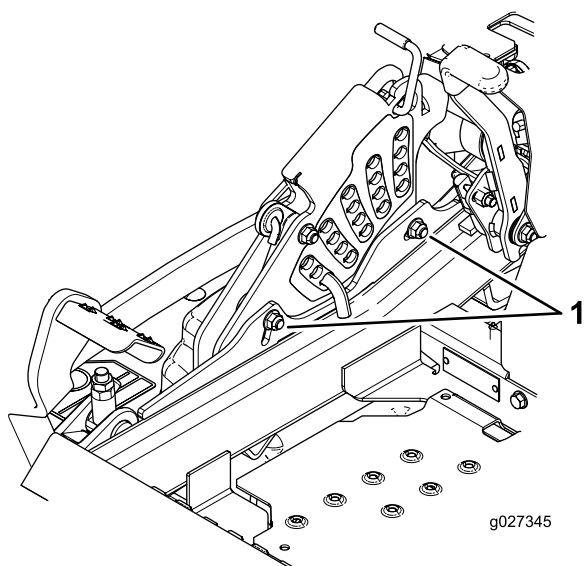

Figure 89
12. To adjust the single-point system, loosen the 2 bolts at the bottom of the height-of-cut plate (Figure 89).